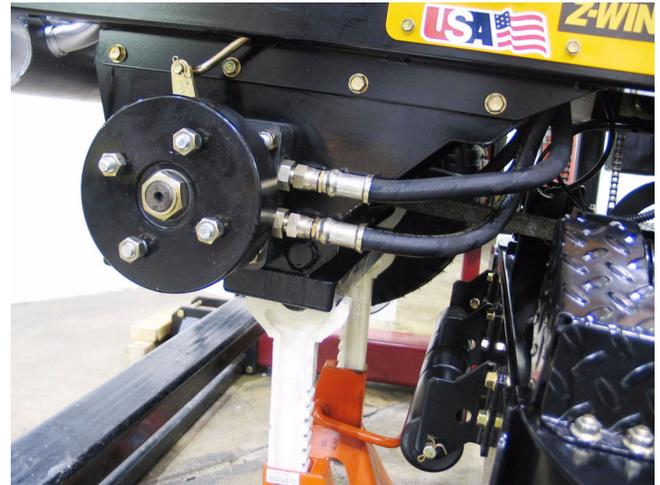

Figure 24.6
- 24.6. Remove the wheels using a 3/4" wrench. See Figure 24.6.